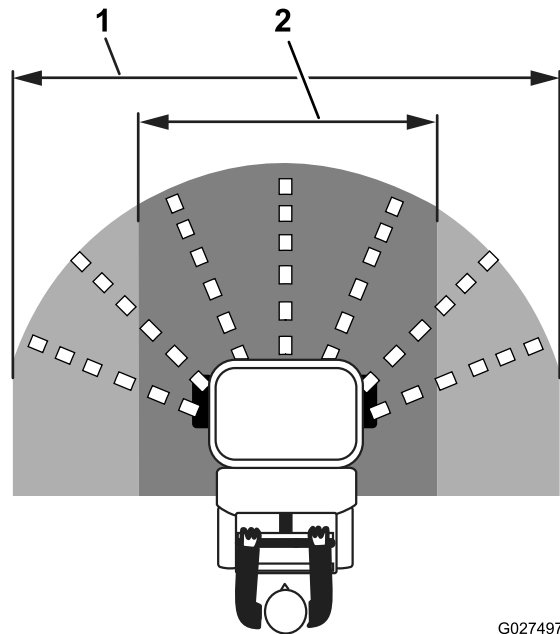

Figure 34
4. Open the either the narrow or wide impeller-gate lever to begin spreading (Figure 34).